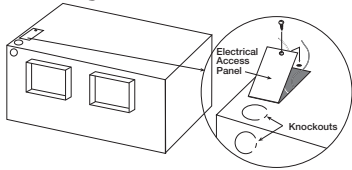

Figure 6 — Knockout
2. Remove either top or side wiring knockout, depending on wiring direction, by bending it back and forth to break tabs, shown in Figure 6.